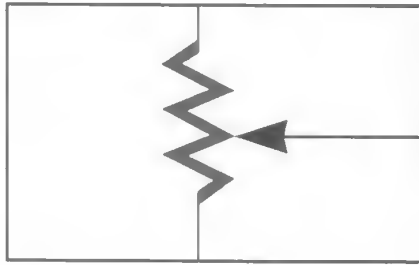

Fig. 4
8. The behavior of resistive circuit elements can be represented by a plot on the voltage-current ( $v$ - $i$ ) plane. This plot is usually called a  $v$ - $i$  characteristic. For most resistive devices, there is a unique value of  $i$  for each value of  $v$ , and vice-versa. To measure  $i$  versus  $v$ , hook up the circuit of Fig. 4, using a resistive element  $Y$ , which will be provided to you (if one is not provided, use a resistor with a value of several  $k\Omega$ ). The arrow through the PS symbol is used to emphasize that the PS voltage is variable. Two DMMs are used, one set up as a voltmeter and the other as an ammeter (alternatively, you can use a single DMM as an ammeter, along with the PS's own voltmeter). Notice that, as before, the voltmeter is connected *across* the element, whereas the ammeter is connected in *series* with the element. Think carefully about where the red and black leads of the DMM(s) should be connected to measure the voltage and current *with the polarity and direction indicated in the figure*.